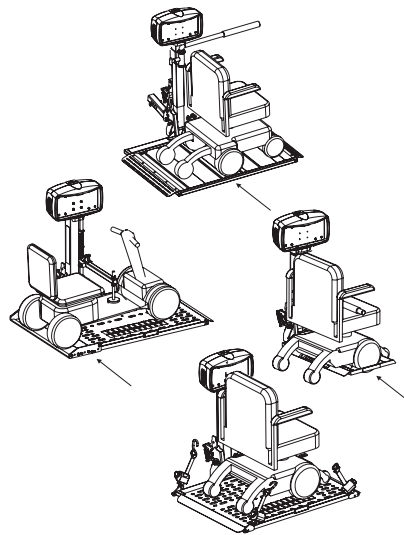

Figure 3-3
2. Maneuver the mobility device until it is positioned at the center of the platform or the drive wheels are resting within the wheel cradles, depending on the lift and chair model. *See Figure 3-3.*